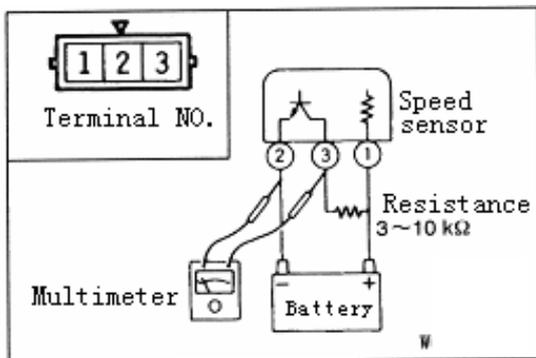

图 20-70
①Raise the vehicle.;
②Connecting the terminals by the resistance (value $3\sim 10k\Omega$) as Fig 20-70 after Removal the connector of speed sensor;
③When the front wheel circumgyrating, measure the volt value variety from terminal NO. 2 to NO. 3 by multimeter. (four pulses every circle).